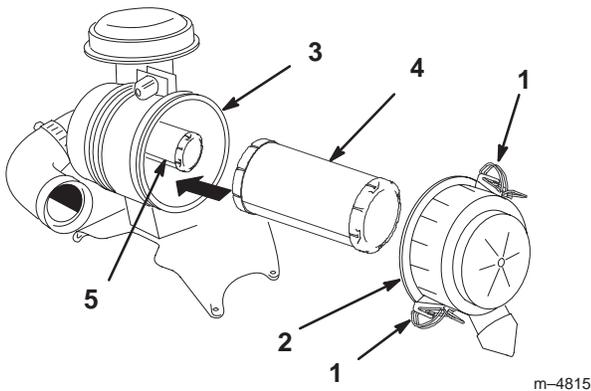

Figure 33
2. Release the latches on the air cleaner and pull the air cleaner cover off of the air cleaner body (Fig. 33).
4. Gently slide the primary filter out of the air cleaner body (Fig. 33). Avoid knocking the filter into the side of the body.
2. If the safety filter is being replaced, carefully slide it into the filter body (Fig. 33).
3. Carefully slide the primary filter over the safety filter (Fig. 33). Ensure that it is fully seated by pushing on the outer rim of the filter while installing it.
4. Install the air cleaner cover with the side indicated as **UP** facing up and secure the latches (Fig. 33).